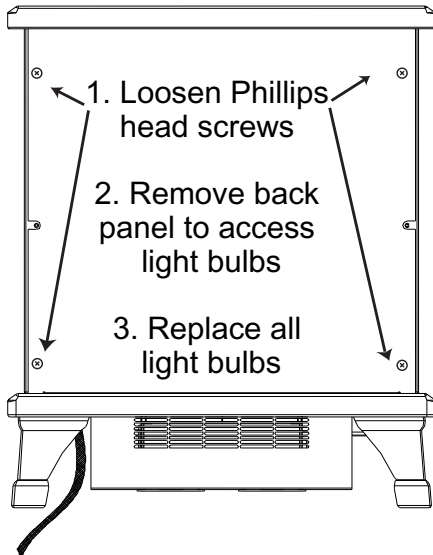

Fig. 4
3. Loosen the screws holding the stove back panel to the main body of stove (see Fig.4).